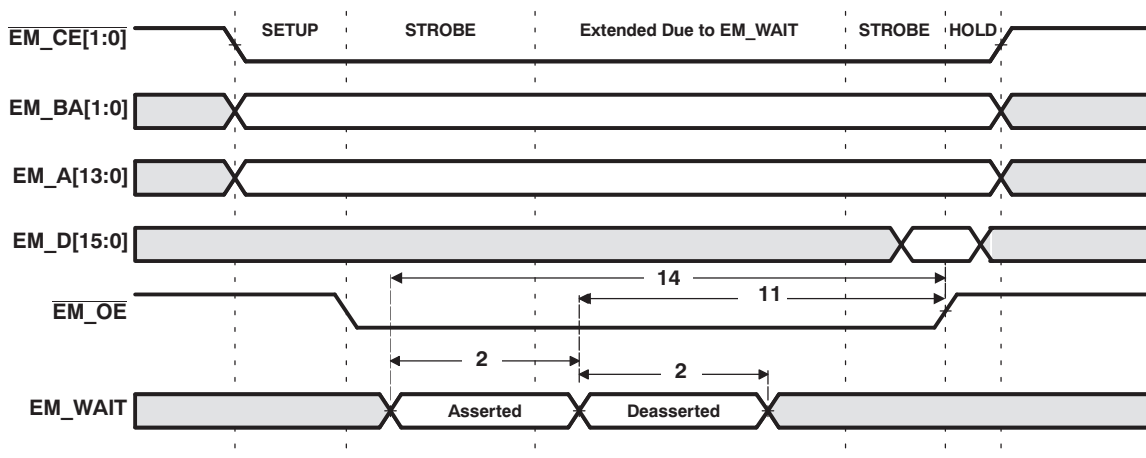
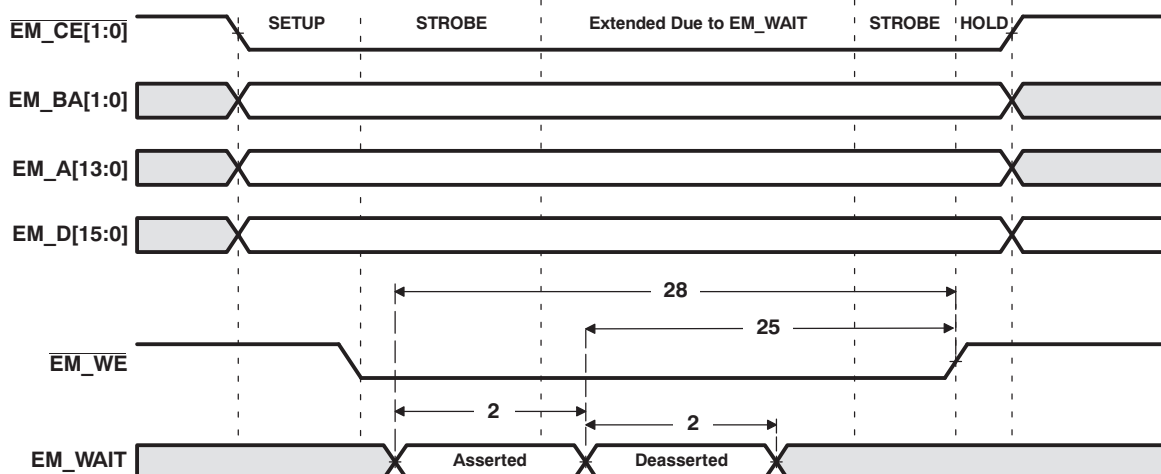

Figure 5-16. EM_WAIT Read Timing Requirements
Figure 5-17. EM_WAIT Write Timing Requirements
- (1) E = PLLC1 SYSCLK2 period in ns. SYSCLK2 is the EMIF peripheral clock. SYSCLK2 is one-fourth the PLLC output clock. For example, when PLLC output clock = 432 MHz, E = 9.259 ns. See Section 3.5 for more information.
- (2) Setup before end of STROBE phase (if no extended wait states are inserted) by which EM_WAIT must be asserted to add extended wait states. Figure 5-16 and Figure 5-17 describe EMIF transactions that include extended wait states inserted during the STROBE phase. However, cycles inserted as part of this extended wait period should not be counted; the 4E requirement is to the start of where the HOLD phase would begin if there were no extended wait cycles.